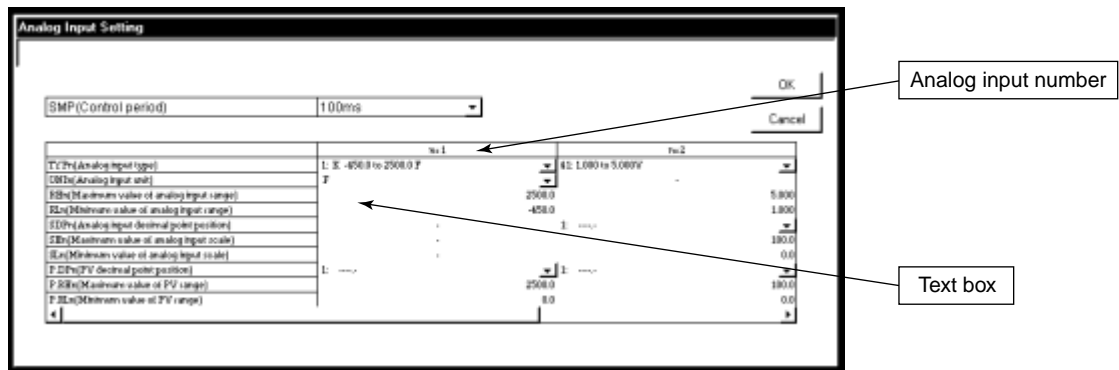

Figure 4.1.5 [Analog Input Setting] Dialog Box
- (5) Click the option button of the control function you want to use from the *Controller Mode*.
- (6) Click the <OK> button.
- (7) If you click the <Cancel> button, the [Specify Suffix Code] dialog box is resumed and the parameter is not updated.
- (8) After step (6), the [Analog Input Setting] dialog box (Figure 4.1.5) opens.